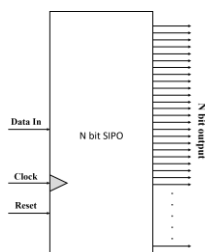

Fig. 6. SIPO Block
f. Serial Input Parallel Output Shift Register: This Block (Fig. 6) is used as the memory device in our design. While programming with each clock pulses the input bitstream is shifted until the last bit is reached. The parallel output of SIPO helps to reach every necessary configuration pin at a time.